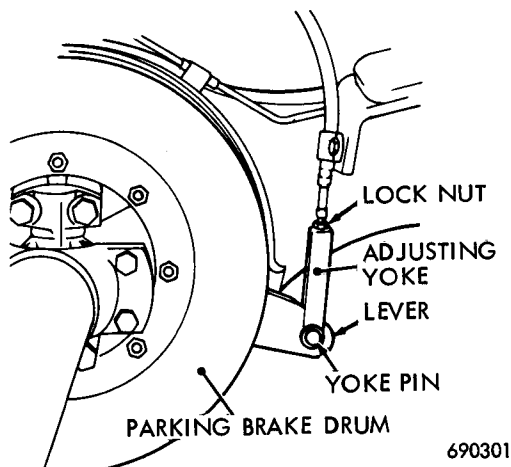

Figure 36
2. Refer to Figure 36. Loosen the locknut and remove the yoke pin.